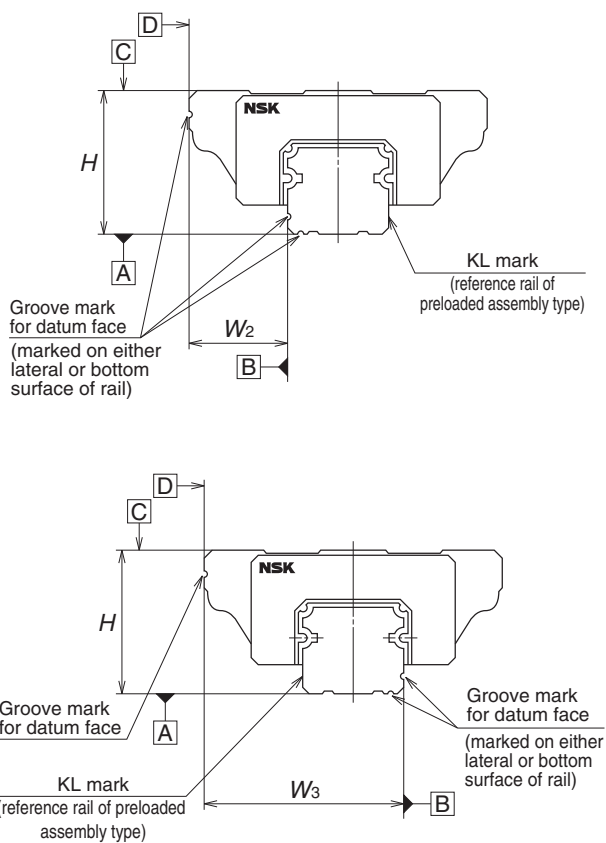
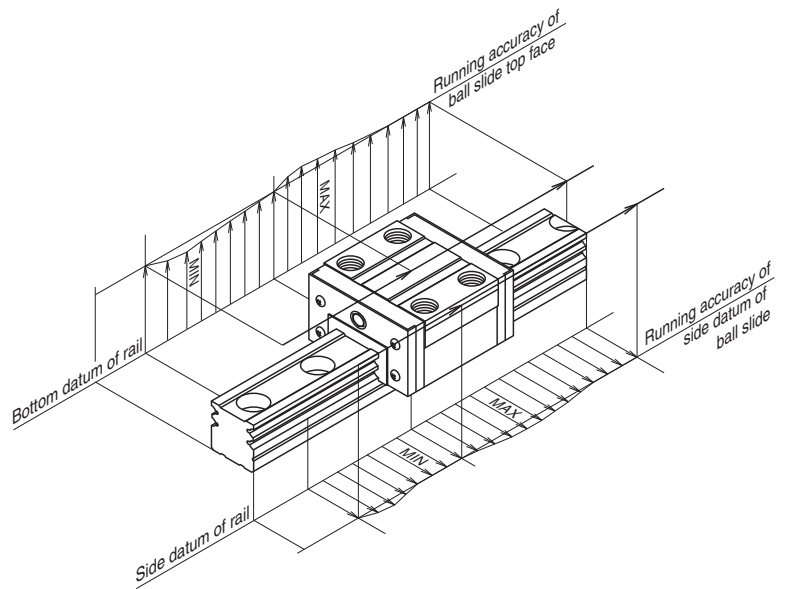

Fig. 1 Assembled accuracy (height and width)
Fig. 2 Running parallelism of ball slide
- Table 1, Figure 1 and Figure 2 show accuracy characteristics.
Characteristics	Definition (Figures 1, 2)